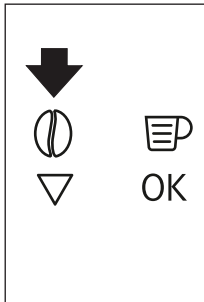

Fig. 15
- ▶ After using the machine with pre-ground coffee, to go back to making coffee using beans, deactivate the pre-ground coffee function by pressing the  icon (B4) (Fig. 15).